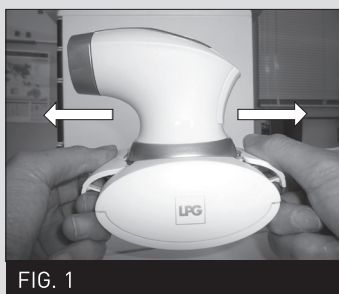

FIG. 1
1. Remove the sealing flaps as shown in the photos below (fig. 1 to 4).